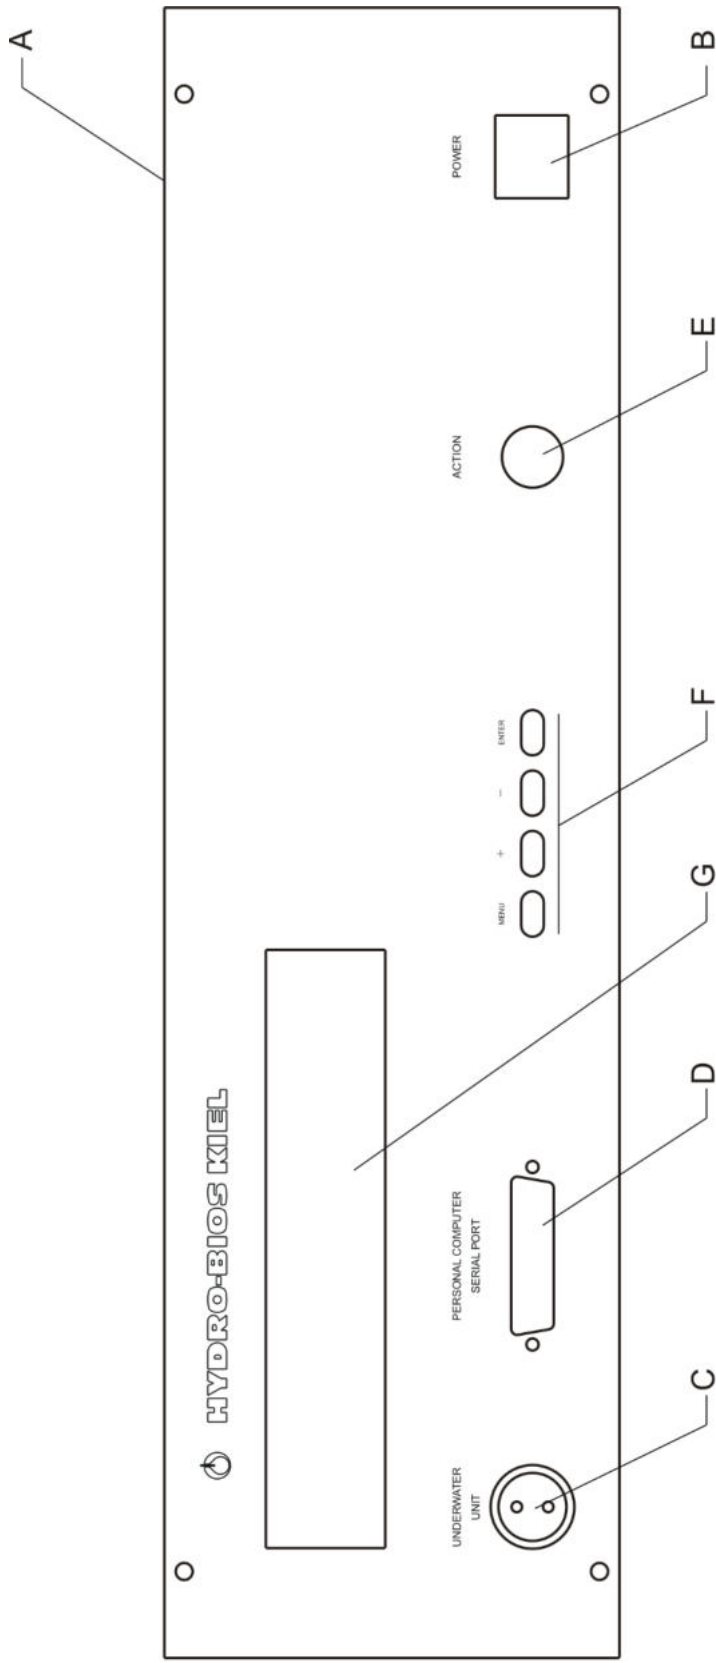

Fig. 2
1. Upon switching on the Deck Command Unit, the main switch is not illuminated (Fig. 2 B), the display remains empty: